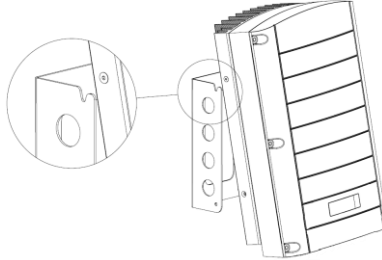
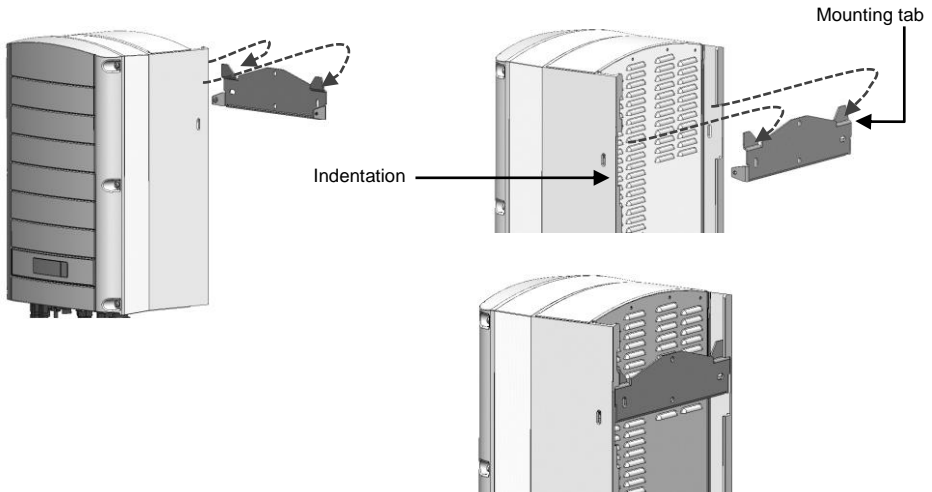

Figure 7: Hanging the inverter on the bracket – Type 1
Figure 8: Hanging the inverter on the bracket - Type 2
- 2** Hang the inverter on the bracket (Figure 7 and Figure 8): Lift the inverter from the sides, or hold it at the top and bottom of the inverter to lift the unit into place.